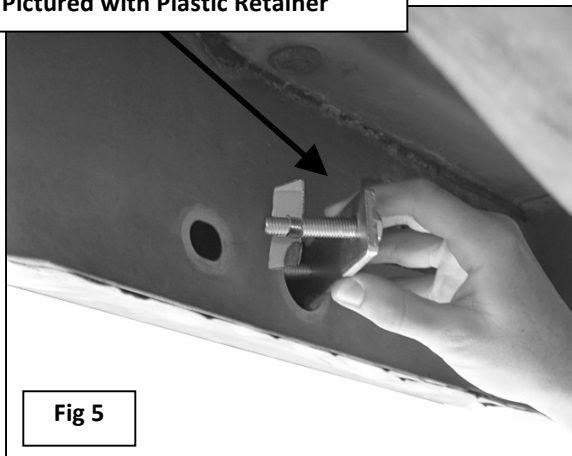
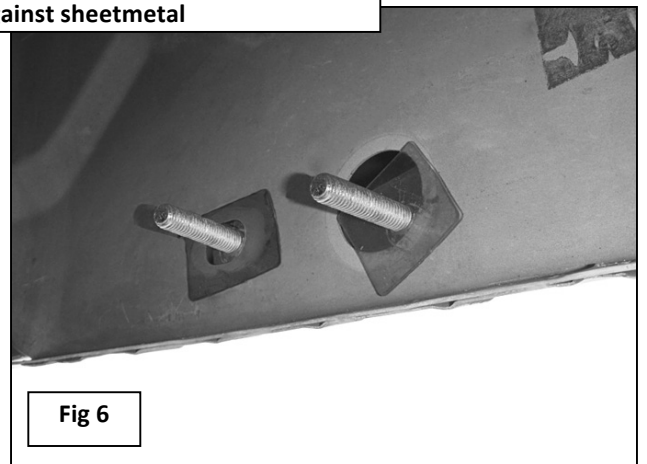

Fig 5
Fig 6
onto (1) threaded end on the Bolt Plate, (**Figure 5**). Insert the other end of the Bolt Plate, (without plastic retainer), into the large round hole and back out the smaller round hole on the inside of the rocker panel. Continue to thread the Plastic Retainer down the Bolt Plate until it is flush with the sheetmetal. Thread (1) Plastic Retainer onto the remaining threaded end on the Bolt Plate, (**Figure 6**). **IMPORTANT:** The Plastic Retainer is designed to prevent the Bolt Plate from falling into the body cavity and to aid in mounting the Bracket.